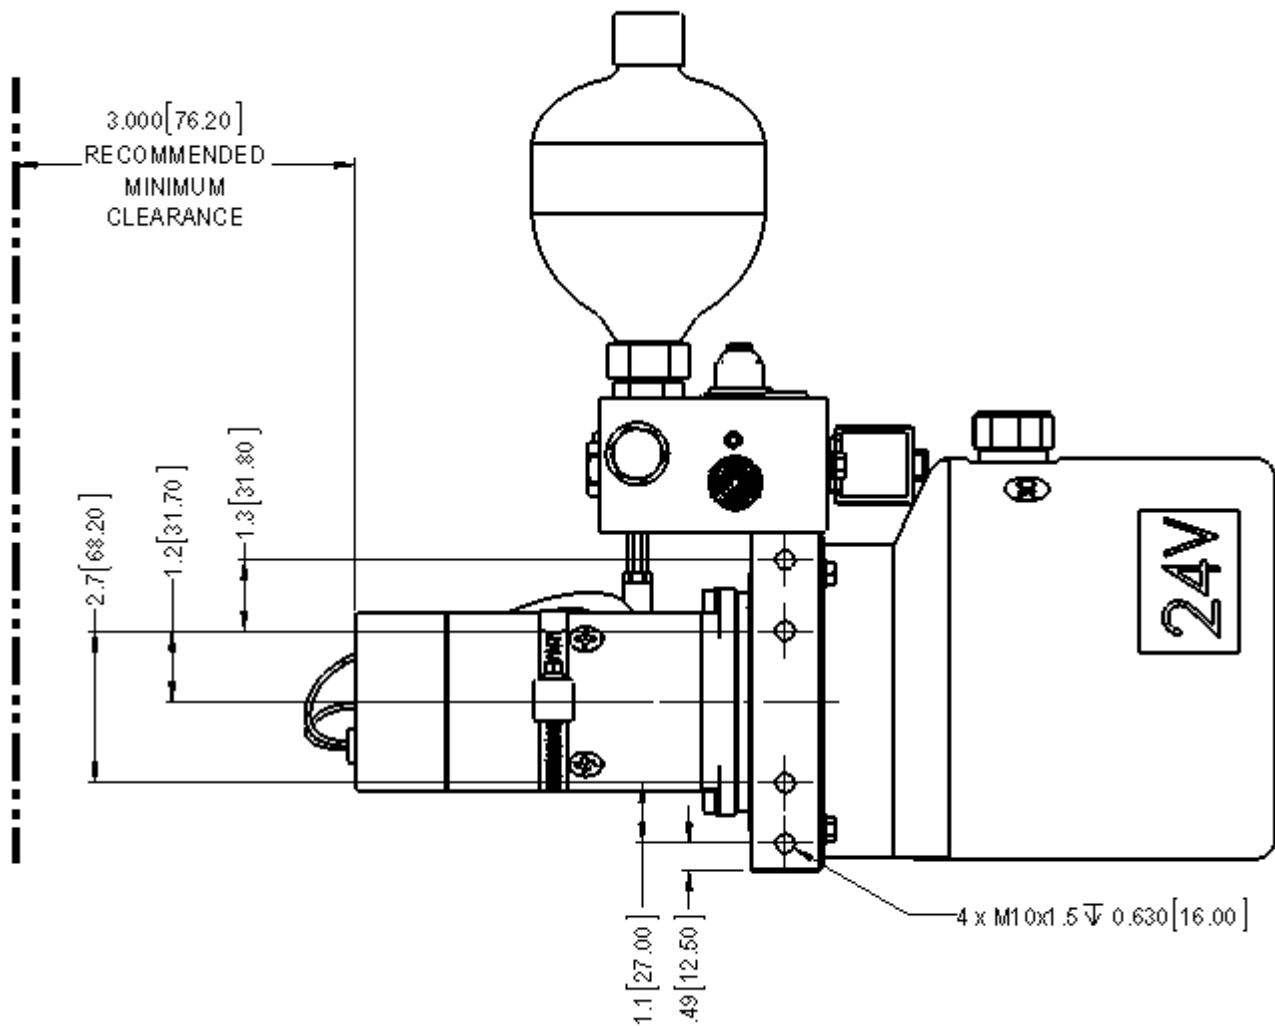

Figure 1
5.2.2. Mount the Pump assembly using at least 4 of the 8 provided mounting holes indicated in Figure 1 and Figure 2.